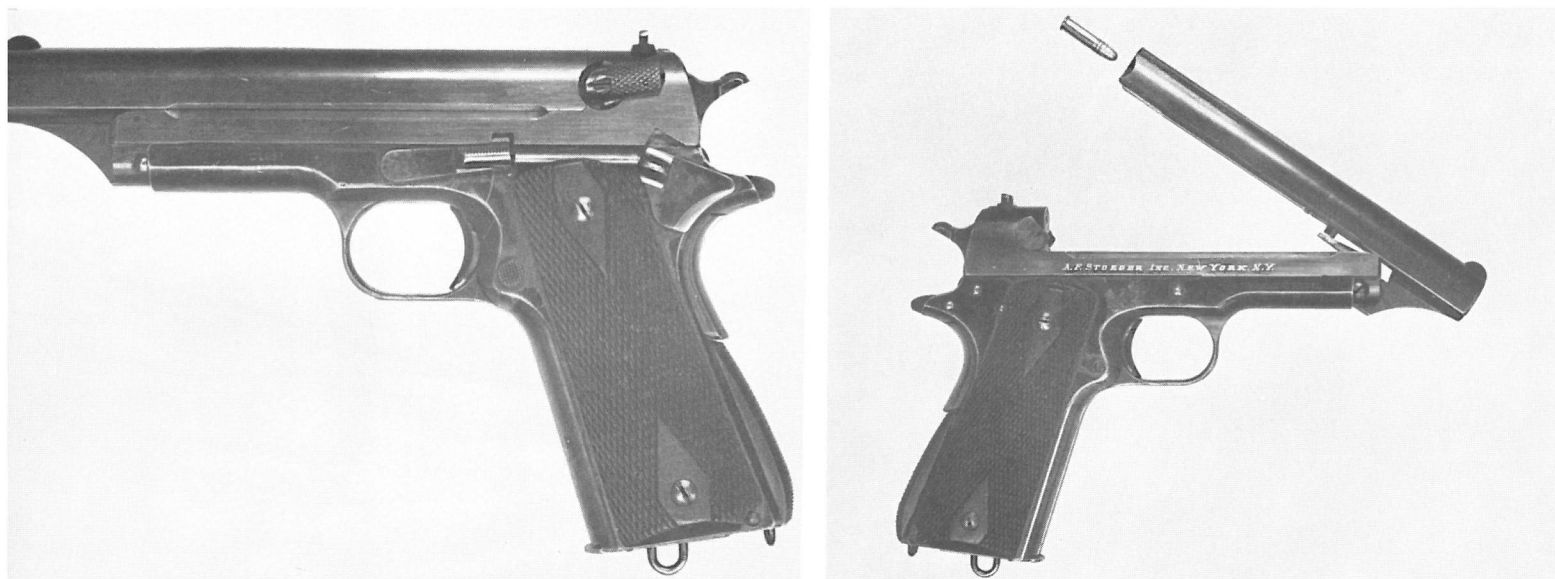

Figure 4. Stoeger .22 caliber attachment.
4. Stoeger .22 Caliber Attachment (figure 4)